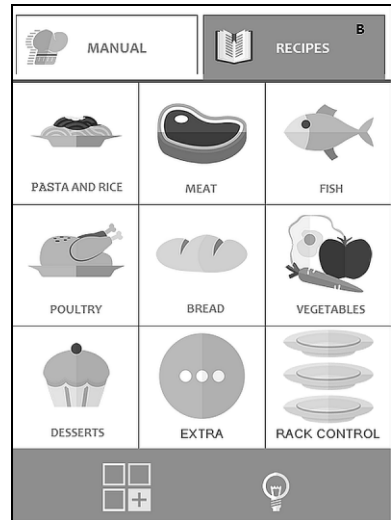

Fig. 27
2. Then select 'Save' and 'Move' (Fig. 27).
Open the thermal processing program and press 'Functions' key (20, Fig. 25), select 'Save' and then 'Rename' (Fig. 27). Type in the new name and press Enter.
The appliance is supplied with a series of thermal processing programs pre-loaded in the memory. They are organised by product categories (meat, fish, vegetables, etc.). They may be displayed out of 'Recipes' list (B, Fig. 27)
By pressing 'Recipes' control field (B, Fig. 27) the thermal processing programs are organised by product categories, e.g., meat, fish, vegetables, etc.